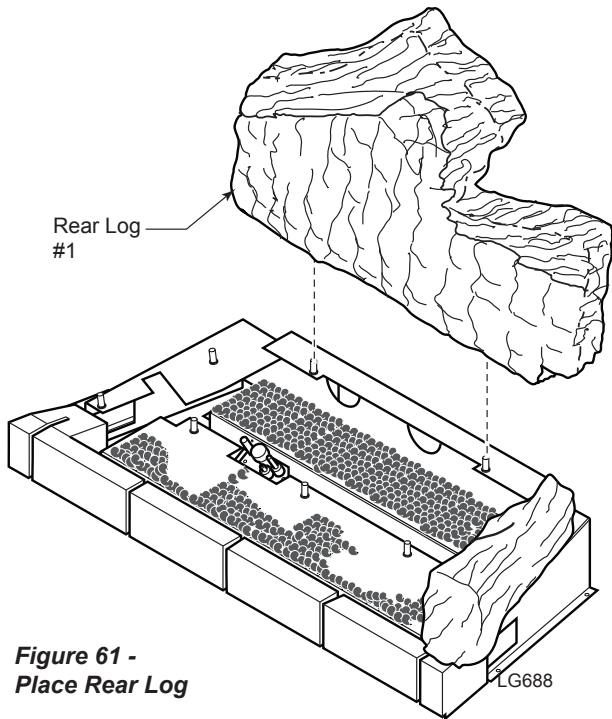

Figure 61 - Place Rear Log
- Place rear log (#1) on two pins against back side of firebox. *Figure 61*